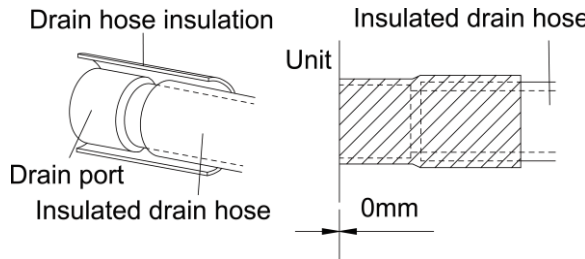

Figure 3-1-14
- (9) Be sure to insulate where the drain port and the drain hose is connected. (Figure 3-1-14)